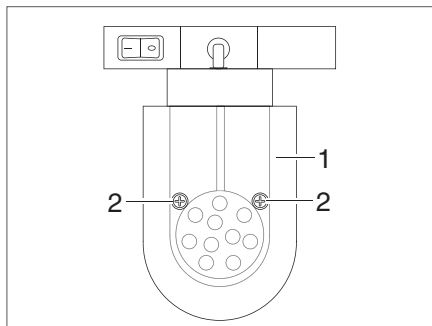

Fig. 178 LED spotlight (movable)
- Loosen the fixing screws (Bild 178,2).
- Remove the lamp glass cover (Bild 178,1) carefully.